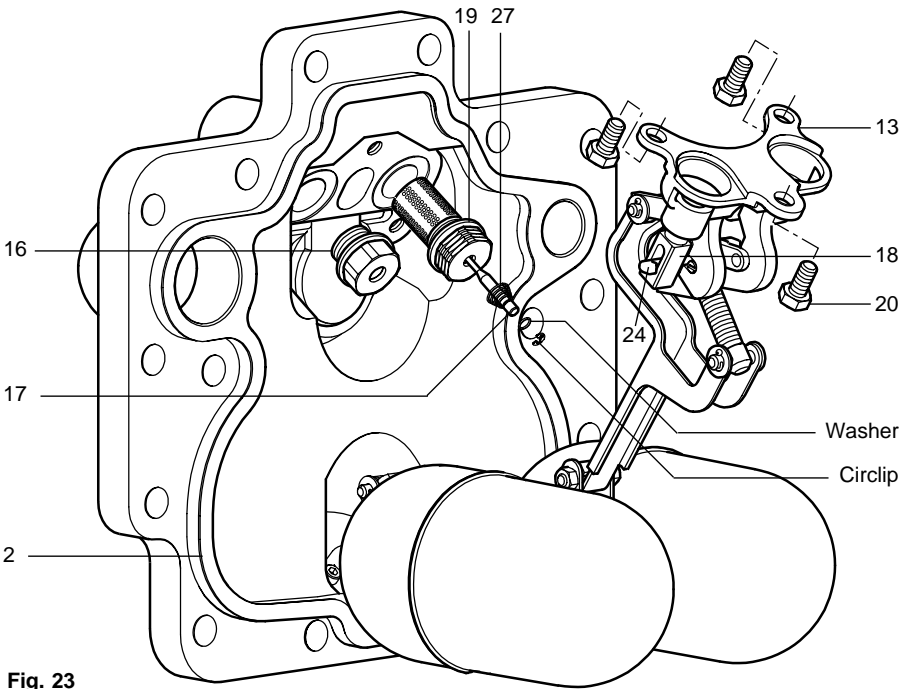
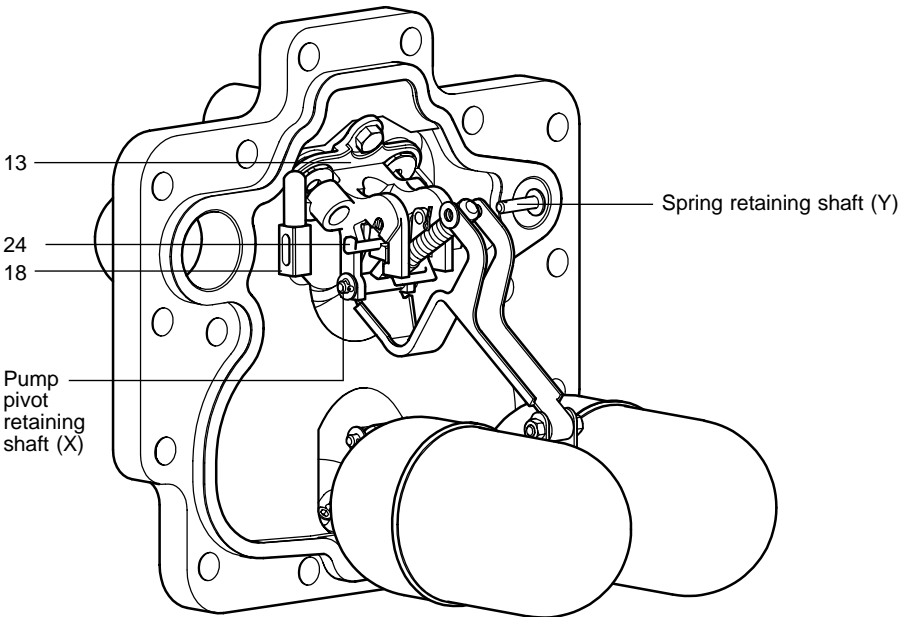

Fig. 23
Fig. 24
3. Carefully remove the circlip, washer and the inlet valve spring (item 27) from the end of the steam inlet valve (item 17).
4. Remove the three M8 bolts (items 20) using the 13 mm A/F socket.
9. Insert the replacement steam valve assembly (item 16 and item 17) according to Fig. 23.
10. Place a new metal gasket (item 19) onto the threads of the seat before tightening into the cover.
15. To remove the exhaust valve (item 18), remove split pins, washers, and shafts (X and Y) from the top spring pivot point and pump pivot point (See Fig. 24).
17. Draw the actuator arm downwards within its slots until the whole spring and actuator arm assembly with the exhaust valve comes free. It may be necessary to slide the exhaust valve backwards against its internal spring to free it from the pump bracket guide (item 13).
18. Align the slot in the exhaust valve (item 18) with the tang of the actuator arm (item 24) (See Fig. 24).